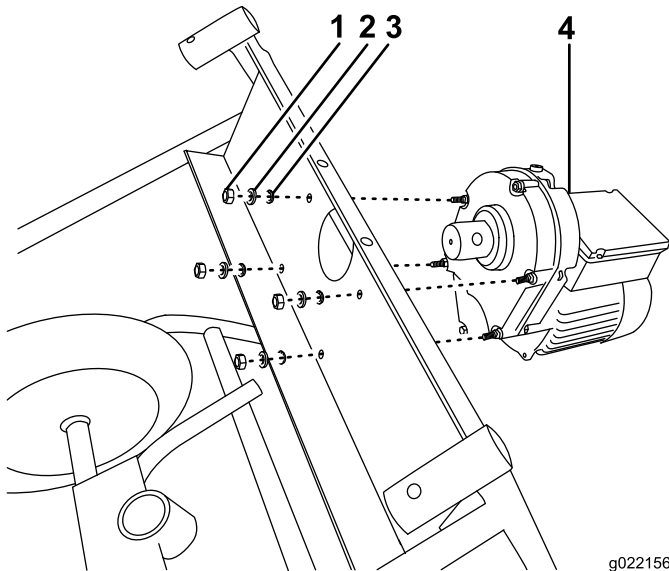

Figure 5
1. Move the motor into position on the frame of the machine; refer to Figure 5.
2. Secure the motor onto the machine with nuts, washers, and lock washers; refer to Figure 5.